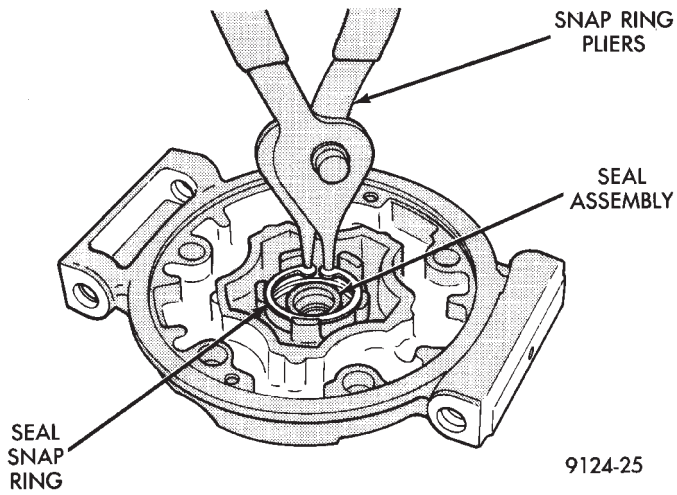
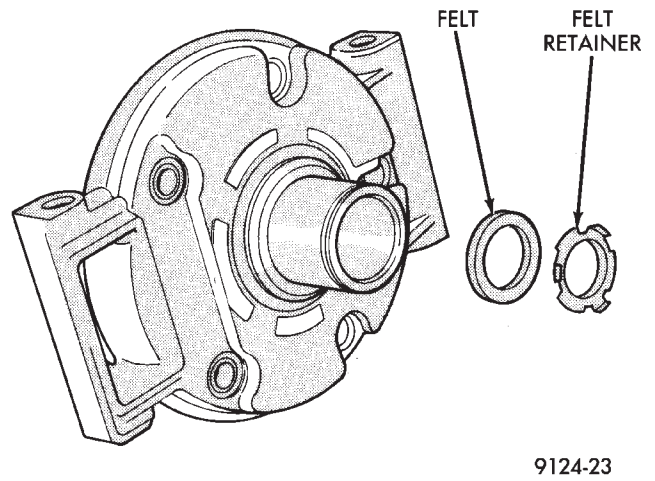
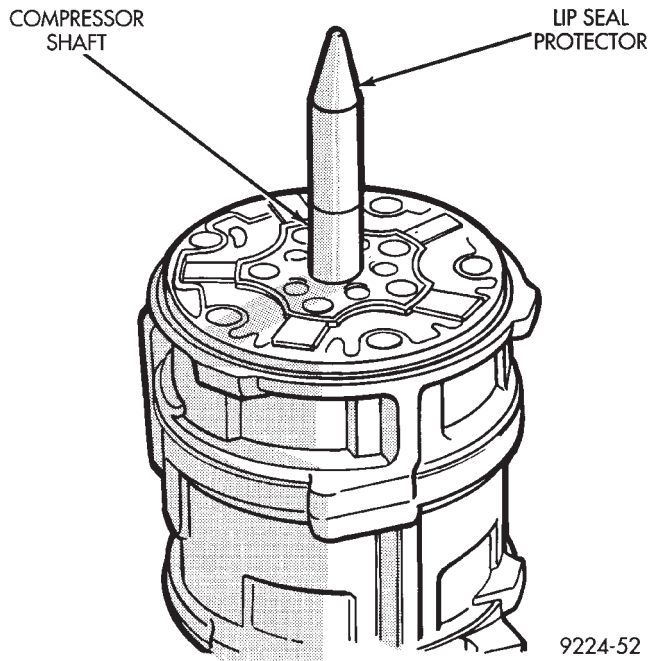

Fig. 17 Seal Snap Ring
Fig. 19 Felt Retainer and Felt
Fig. 18 Installing Lip Seal Protector
(7) Install seal snap ring (Fig. 17).
(8) Lubricate front cover O-ring with refrigeration oil and carefully place it in seal groove.
(9) Install lip seal protector on shaft (Fig. 18).
(10) Install front cover to front compressor body.
(11) Install compressor through-bolts and finger tighten only. After bolts have been finger tightened, torque to 29N•m (260 in. lbs.).
(12) Install felt shaft seal and retainer (Fig. 19) into front housing.